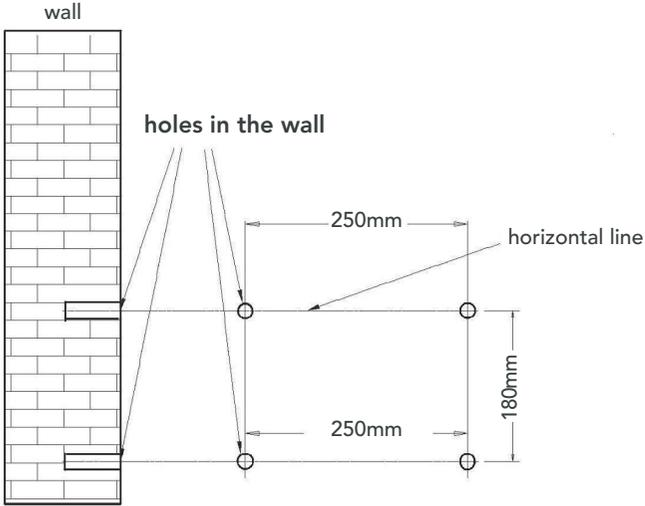

Fig. 4
- 3 Drill 4 holes in the wall to match the ones on the fixture. Ensure that the diameter of the holes is the same as that of the plastic expansion pin (included in a separate plastic bag), and that the depth of the holes is the same as the length of the plastic expansion pin (see Fig. 4).